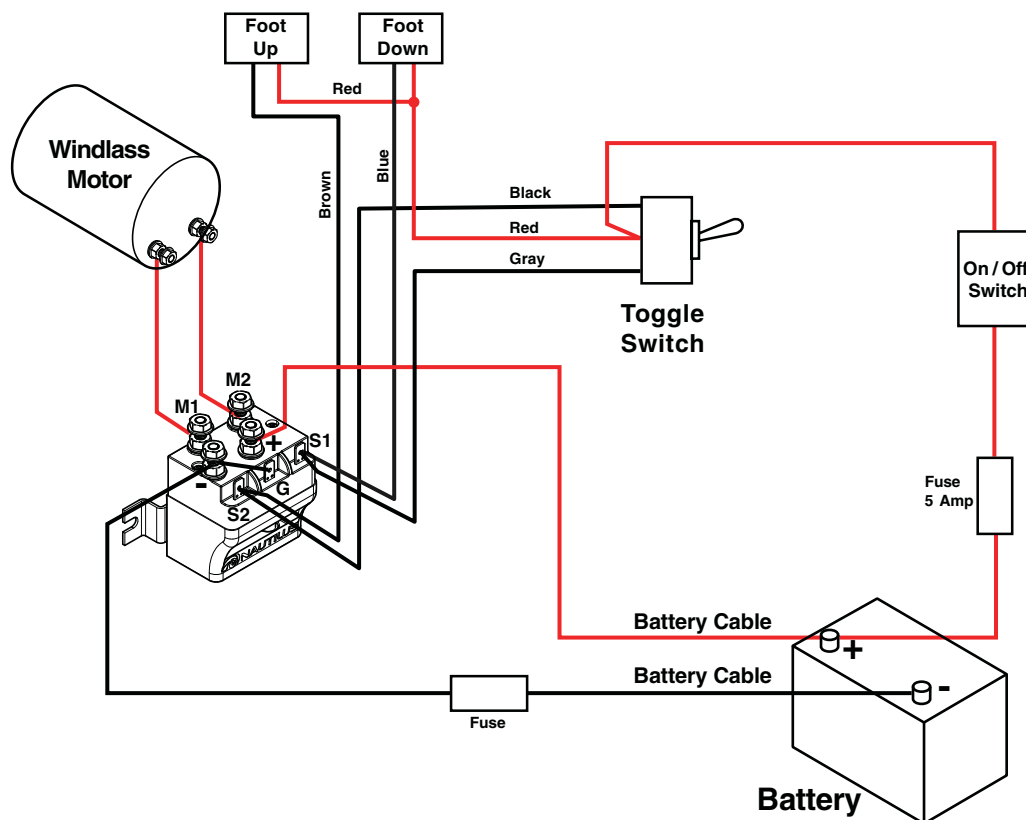

Figure 4-11
2. Connect all electrical connections between the windlass motor, solenoid and control switch as shown in **Figure 4-11**. Refer to the tables on page 11 for proper wire gauge sizing.
Connect the control switch leads to the relay as shown in **Figure 4-11** and as follows.